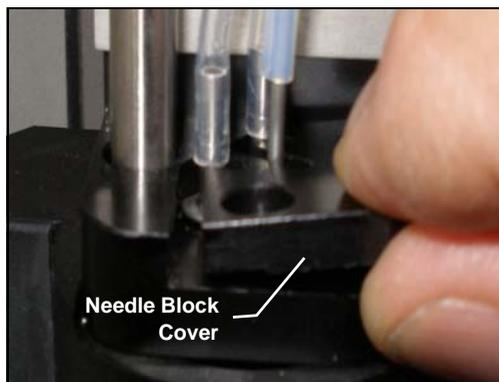

Figure 5-24. Removing the Needle Block Cover
6. Slide the cover of the needle block to the front and right, away from the needle (see Figure 5-24). Remove the cover.